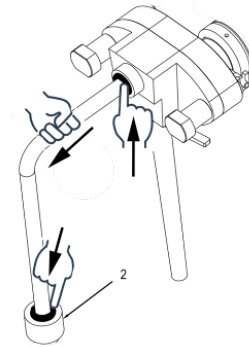

Fig. 41
- Relief the cylinder pressure by slowly moving the tap handle until the pressure is completely discharged (Fig. 41).